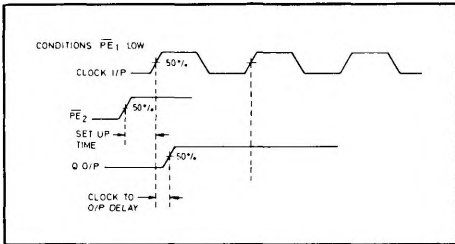

Fig. 3 Set-up timing diagram
- Set-up time is defined as the minimum time that can elapse between a L $\rightarrow$ H transition of a control input and the next L $\rightarrow$ H clock pulse to ensure that the  $\bar{z}$ 10 mode is forced by that clock pulse (see Fig. 3).